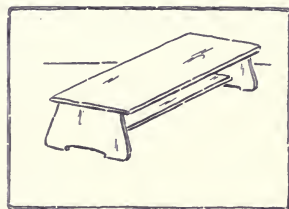

Fig. 279. Cricket.
*Foot Stool or Cricket*, Fig. 279. The grain of the supports should run up and down, because pieces with the grain horizontal would be likely to break under pressure. Braces or a rail give additional support. The top should not be larger than the base of the legs; otherwise a person standing carelessly on the stool is in danger of being upset.